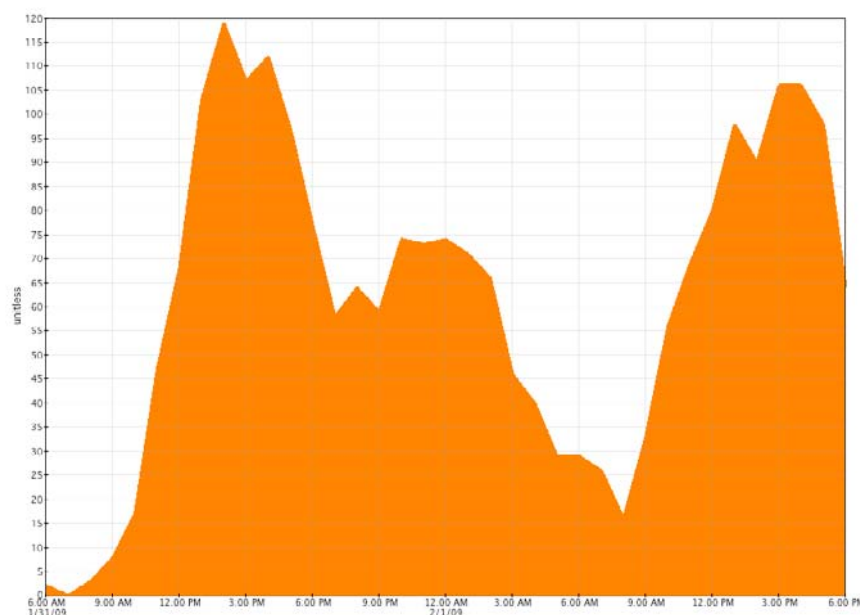

Figure 1. Burning index (BI) values at Marshall during the wildfire period of January 31 and February 1, 2009.
The "Burning Index" (BI) is one index calculated by the National Fire Danger Rating System (NFDRS) on which our Oklahoma model is based. It is proportional to the intensity of the fire (i.e., fire danger) – the greater the BI value, the greater the difficulty of suppressing the wildfire. Burning Index is a function of the weather conditions as well as the fuel type and amount. A BI of 40 is considered a moderate threshold for fire danger and a BI of 80, a high threshold. Figure 1 shows the BI values at Marshall (a nearby Oklahoma Mesonet site) from 6 a.m. January 31 to 6 p.m. February 1. Note that during both afternoons, BI values were well in excess of 80 – on Saturday they reached up to 120 and on Sunday, up to 106. Also impressive is the rapid rise in BI